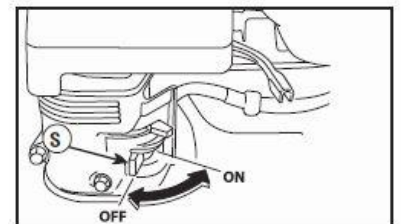

Fig. 12
6. Move fuel valve lever (S) to "On" position. (See Fig. 12)
4. Move fuel valve lever (S) to "Off" position. (See Fig. 12)